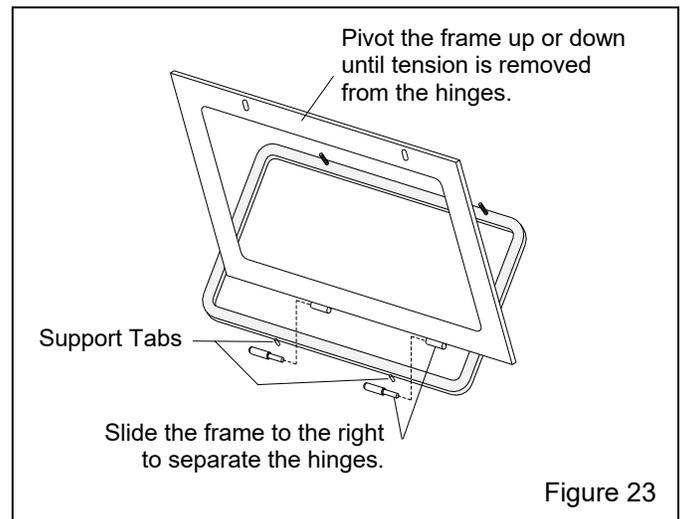

Figure 23
7.6 Window-Frame Removal – Figure 23
7.6.4 To remove, slide the frame to the right. The hinges separate, as shown in Figure 23.